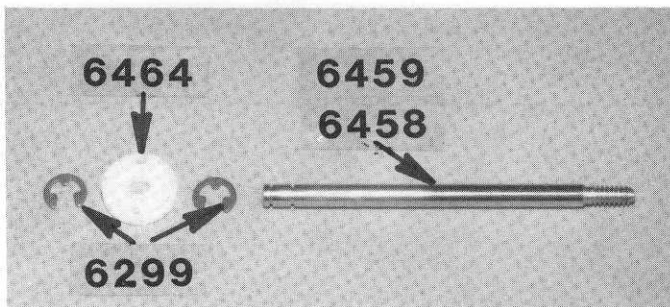

**Fig. 103**
□ **Fig. 103 & 104** Install the body mounts from Bag 7-5 to the #7353 rear shock strut from Bag 7-4 in the location shown, using the center of the three holes for the 4/40 x 5/16" SHCS mounting screw. Although the photo shows two mounting screws, your mounts only require one screw. The mount is held in alignment by a short knob that goes in the bottom hole. Now attach the shock strut to the rear bulkhead with the four 4/40 x 1/2" SHCS screws, as shown.